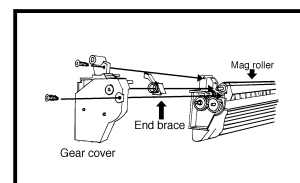

Figure 3
- Remove the gear cover (2 screws) on the toner hopper assembly. **NOTE:** Make a note of gear position for re-assembly. Remove the end brace from the magnetic roller and lift the roller from the toner hopper assembly (Fig. 3).